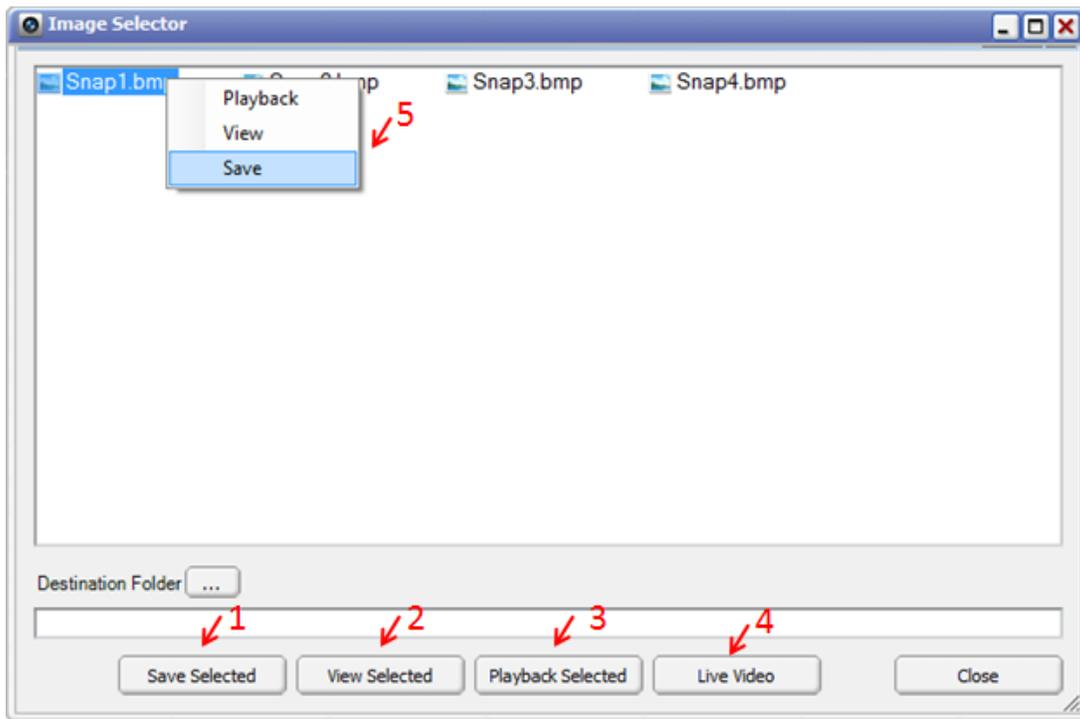

Figure 27 – 8-bit Snapshot Management
- Select the snapshot and use the “Save Selected” button from the Image Selector window (figure 27, #1)
- Right-click on the snapshot in the Image Selector window and a select “Save” from the drop-down list (figure 27, #5)
- Select the “View Selected” button (figure 27, #2) in the Image Selector window
- Right-click on the snapshot and select “View” from the drop-down list (figure 27, #5)